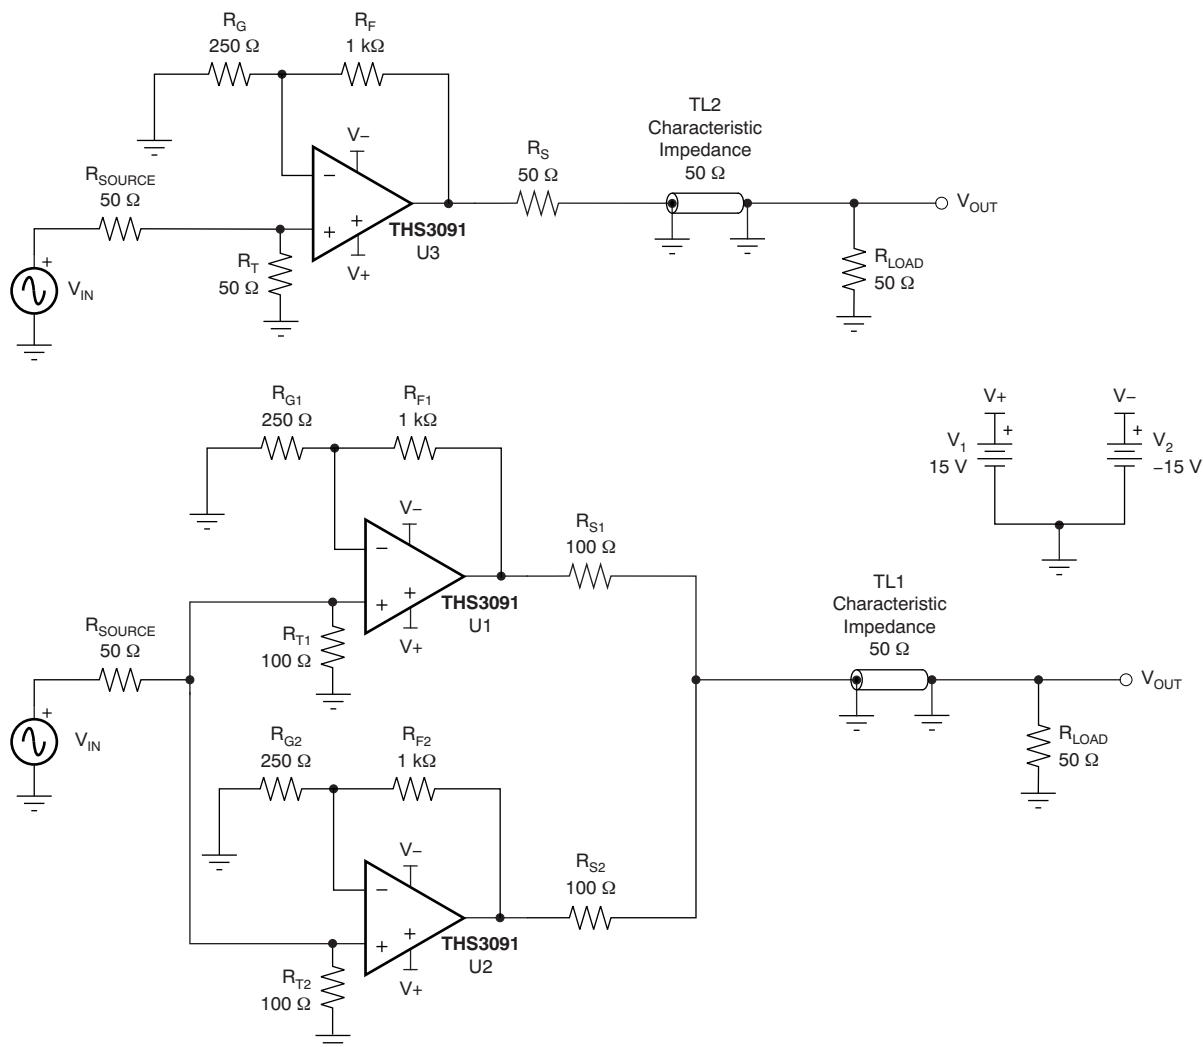

Figure 71. Reference THS3091 and THS3091 Load Sharing Test Configurations
The fundamental concept of load sharing is to drive a load using two or more of the same operational amplifiers. Each amplifier is driven by the same source. Figure 71 shows two THS3091 amplifiers sharing the same load. This concept effectively reduces the current load of each amplifier by $1/N$, where N is the number of amplifiers.
matching resistance (refer to Figure 71) driving a resistive load (RL), each series resistance is $2 \cdot RL$ and each amplifier drives $2 \cdot RL$. A convenient indicator of whether an op amp will function well in a load sharing configuration is the characteristic performance graph of harmonic distortion versus load resistance. Such graphs can be found in most of TI's high-speed amplifier data sheets. These graphs can be used to obtain a general sense of whether or not an amplifier will show improved distortion performance in load sharing configurations.
Two test circuits are shown in Figure 71, one for a single THS3091 amplifier driving a double-terminated, 50-Ω cable and one with two THS3091 amplifiers in a load sharing configuration. In the load sharing configuration, the two 100-Ω series output resistors act in parallel to provide 50-Ω back-matching to the 50-Ω cable.